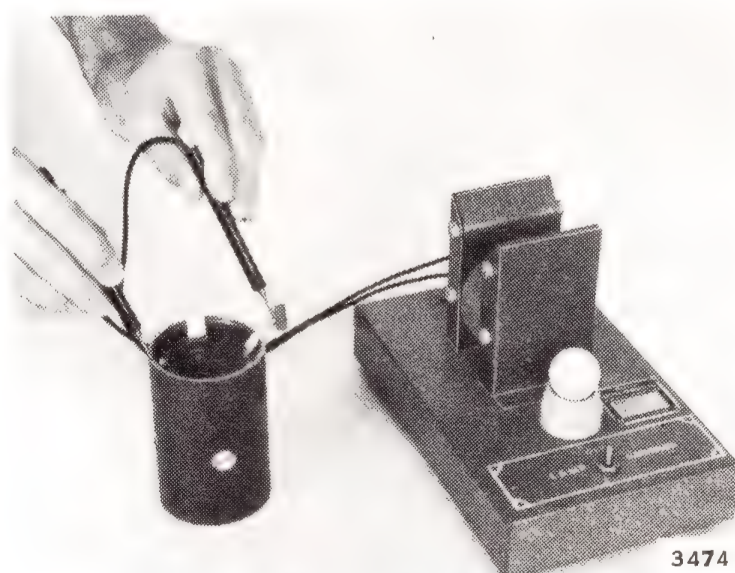

Figure 7-9. Checking Field Continuity
d. Using a test light, check field windings for continuity between field brush lead and frame of motor (ground). See Figure 7-9.